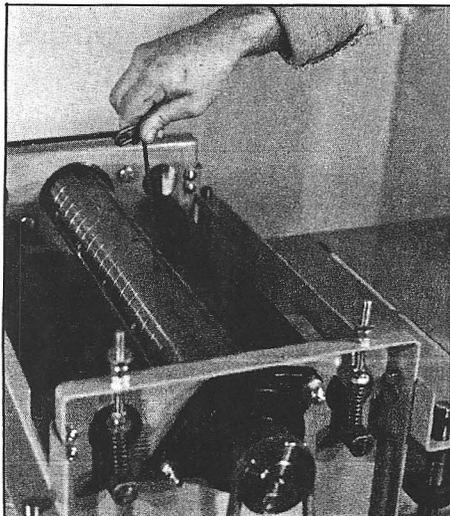

Fig. 8
3. Remove one gib at a time. Loosen and remove the three socket head cap screws that hold the gib in the cutterhead slot. (fig. 8)